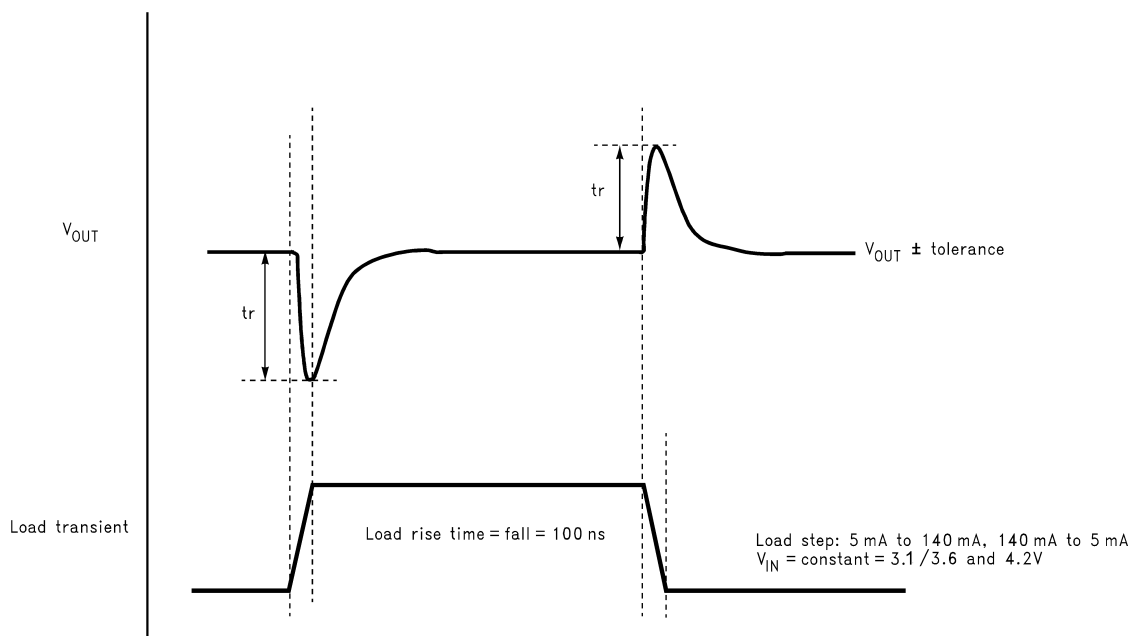

Figure 5.
- (7) Load Transient response requirement. See Figure 5.
- (8) During transient recovery, output voltage should not be oscillating.